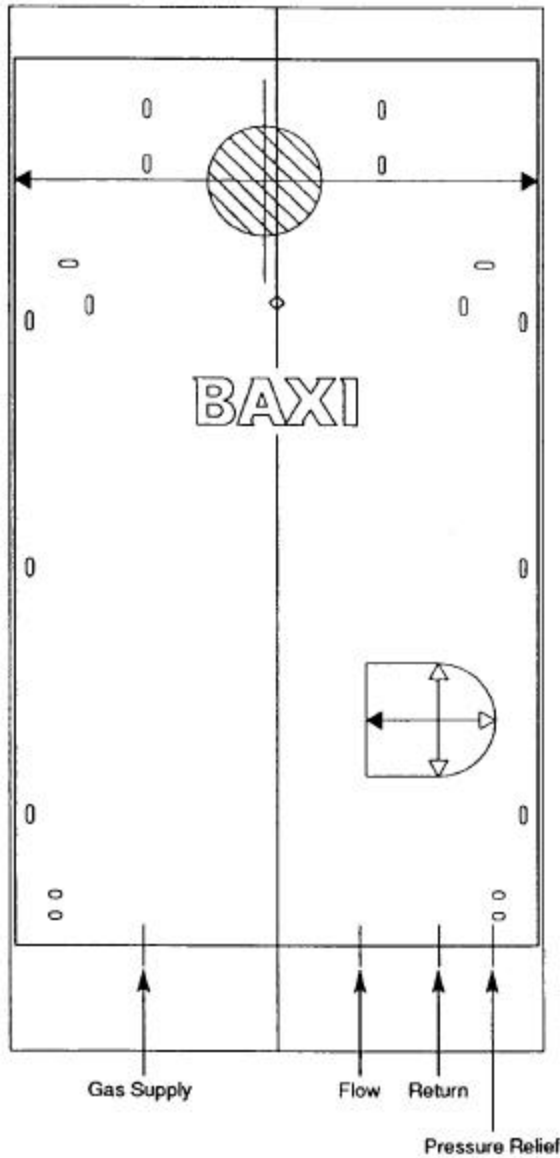

Fig. 14c
1. Remove the fixing template (Fig. 14c) from the carton.